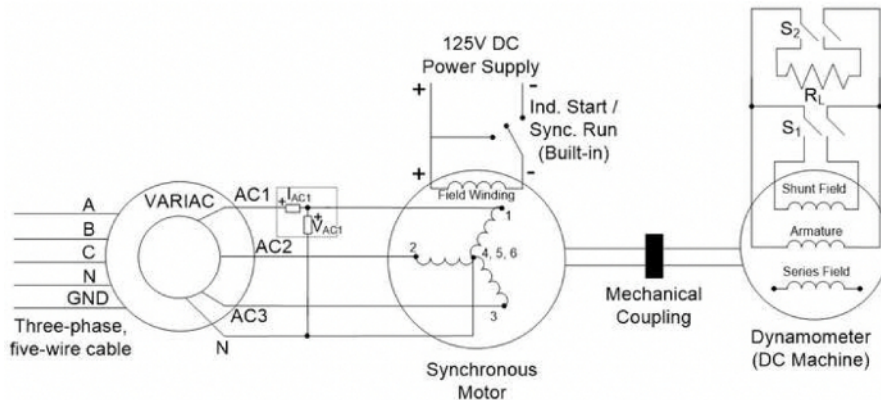
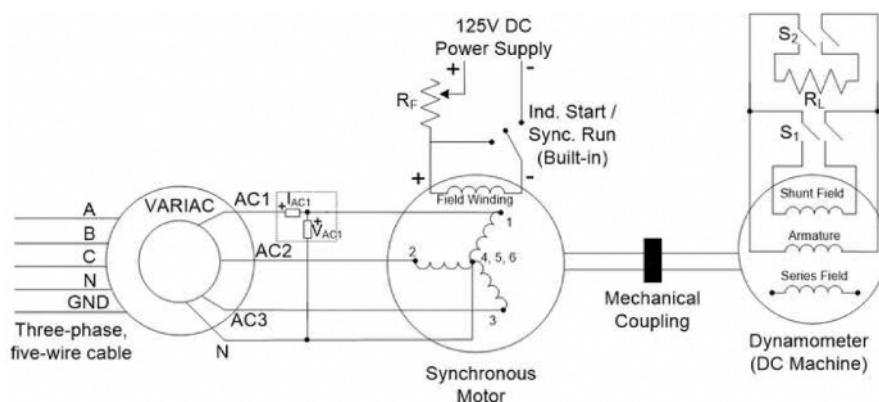

Figure 2: A schematic of the setup to study the effect of load on torque angle. Please click here to view a larger version of this figure.
Figure 3: A schematic of the setup to study the effect of changing the field current. Please click here to view a larger version of this figure.
2. Connect the setup shown in Fig. 2 and set "R_L" to 200 Ω.
3. Connect the setup shown in Fig. 3, which is only different from Fig. 2 by adding the series field resistor " R_F ," and set " R_L " to 200 Ω .